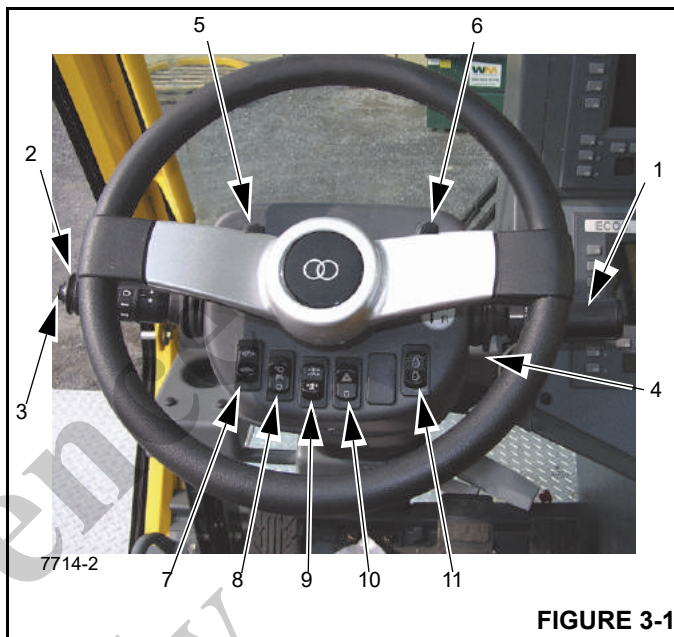

FIGURE 3-1
Refer to Figure 3-1.
The Turn Signal Lever (2) (Figure 3-1 and 3-2) is located on the left side of the steering column. Pushing the lever down causes the left indicator light, left front and left rear turn signals to flash. Pushing the lever up causes the right turn signal indicator light, the right front and right rear turn signals to flash.